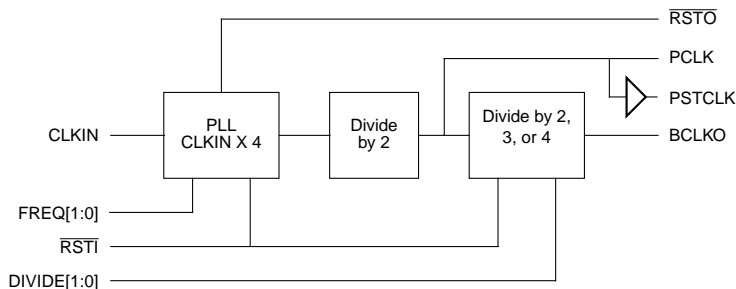

Figure 7-1. PLL Module Block Diagram
- A buffered processor status clock (PSTCLK) is equal to the PCLK frequency, as indicated in Figure 7-1. This signal is made available for system development.
Figure 7-1 shows the frequency relationships of PLL module clock signals.
PSTCLK	Provides a buffered processor status clock at 2X the CLKIN frequency. PSTCLK is a delayed version of PCLK. See Section 7.4.1, “PCLK, PSTCLK, and BCLKO,” and Figure 7-1.